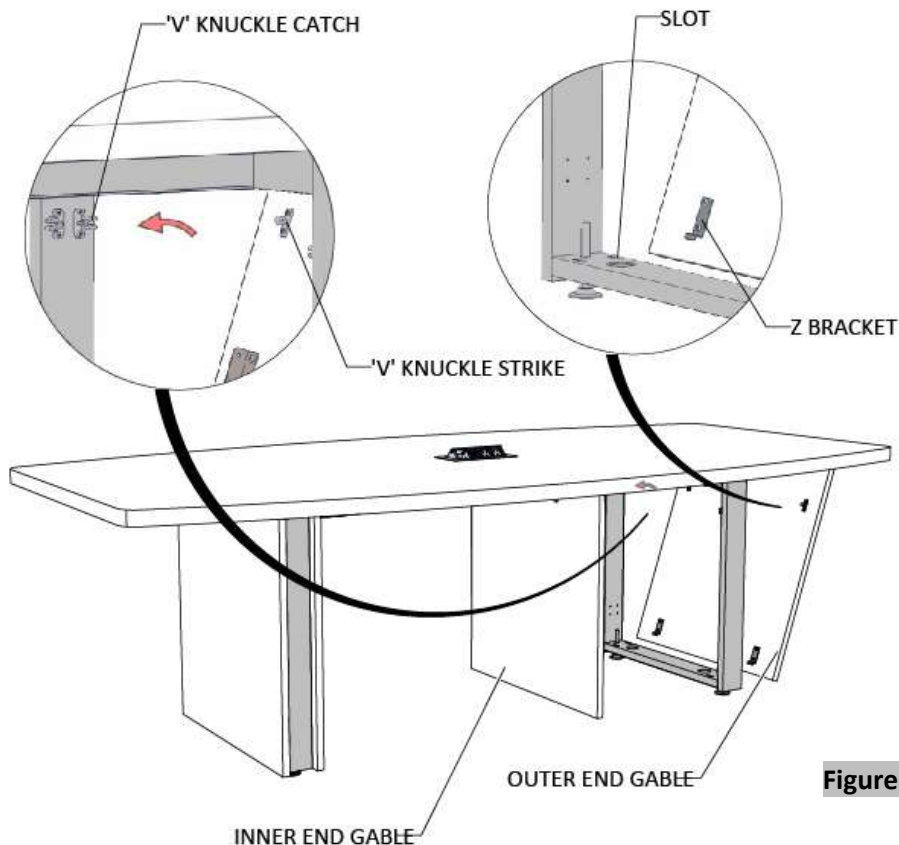

Figure 8
- 11. Angle the end gable at 30 degrees; Insert the Z brackets into the slots of the steel gable and push the gable cover gently, (Figure 8). Repeat this procedure for each gable cover required.